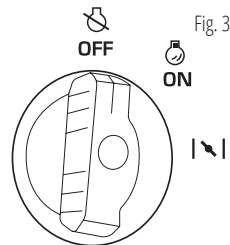

Fig. 3
4. Set the 3-in-1 switch to “OFF” (Fig. 3).